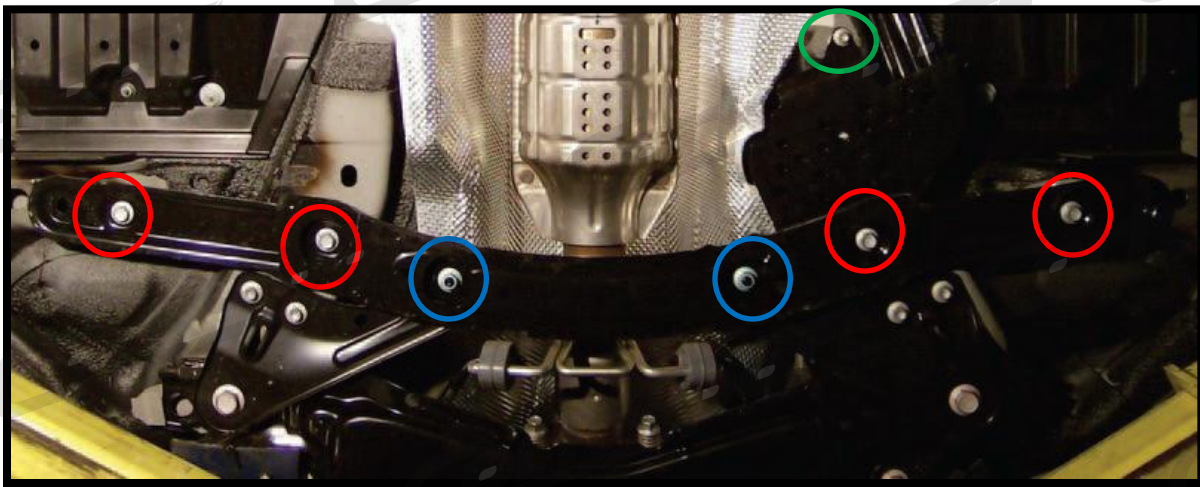

Figure 2b
- D. Remove the front chassis cross member by removing the fasteners shown in Figure 2b: 4x 14mm bolts, 2x 14mm nuts and 1x 10mm bolt holding brake line shield to the chassis.
- H) Reinstall the front chassis brace by reinstalling the four (4) 14mm Head Hex Bolts, two (2) 14mm Nuts, one (1) 10mm (see **Figure 2b** for bolt location reference). Torque the 14mm Bolts & Nuts to 22-28 Lb Ft. Tighten the 10mm hand tight (~10 Lb Ft).
- I) Reinstall Center Chassis Brace eight (8) 12mm Bolts and torque to 22-28 Lb Ft.